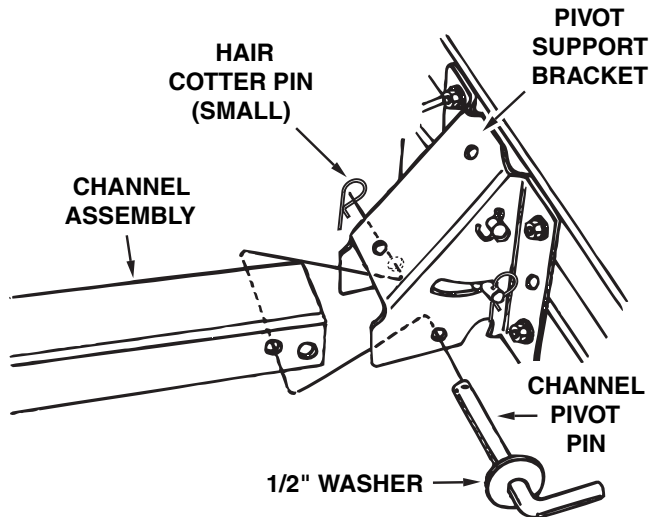

Figure 3
- Attach the channel assembly to the tractor by placing the end of the channel inside the pivot support bracket. Assemble the 1/2" flat washer onto the channel pivot pin and insert the pin through the holes in the pivot support bracket and the channel. Secure with a small hair cotter pin. See figure 3.